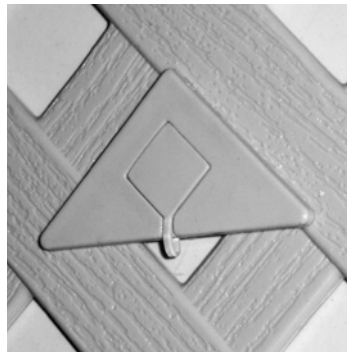

Fig. 5
7. Push the screw covers into place on the Diamond Clips to hide the screws (Fig. 5).